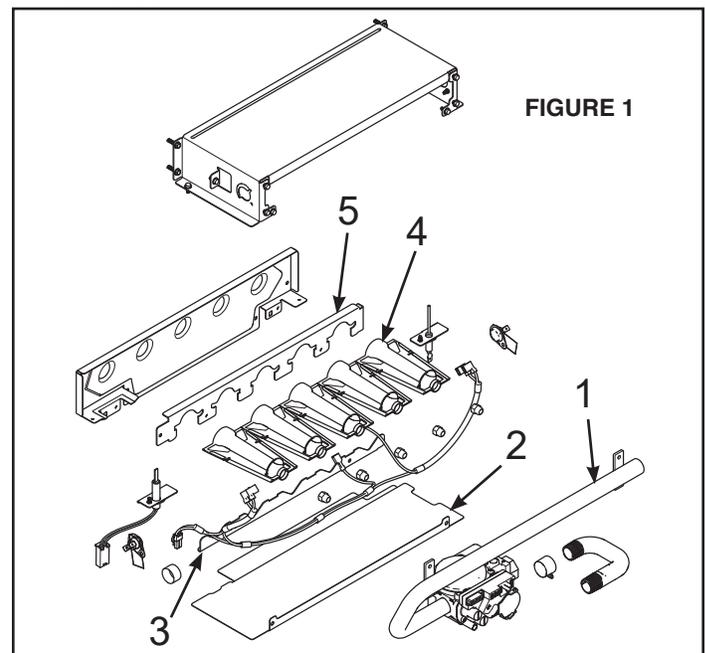

FIGURE 1
3. Remove screws and detach manifold pipe (item 1) from burner box. See Figure 1 for references.
4. Remove screws and detach burner plate (item 2) from burner box.
5. Remove screws and detach burner clamp (item 3) from burner box.